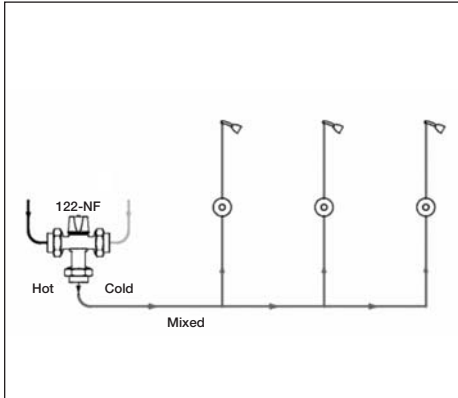

FIGURE 2 – ASSE 1069
3. Connect the water supply to valve as shown in Figure 2, 3 or 4 depending on application. Supply piping must be flushed clean before making connections to the valve.